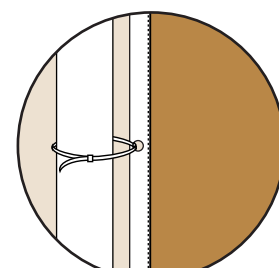

Fig 15,
17. If applicable, Secure plastic ties through the eyelets and around the pole. DO NOT OVER-TIGHTEN (See Fig 15). Wind the winch to raise the flag to the top of the pole.